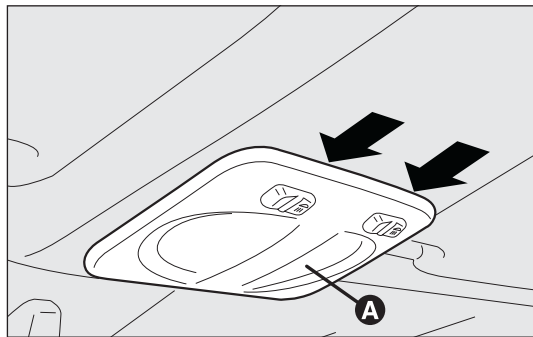
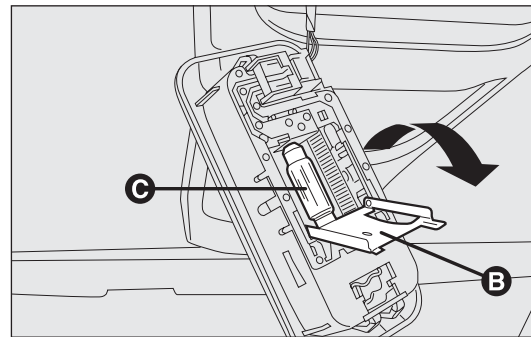

fig. 152
fig. 153
- ☐ act on the points shown by the arrows and remove light A-fig. 152;
- ☐ open the protective flap B-fig. 153;
- ☐ replace bulbs C-fig. 153 by releasing them from the side contacts and making sure that new bulbs are correctly locked between these contacts;
- ☐ close the flap B-fig. 153 and fix the courtesy light A-fig. 152 in its housing, making sure it is locked correctly.